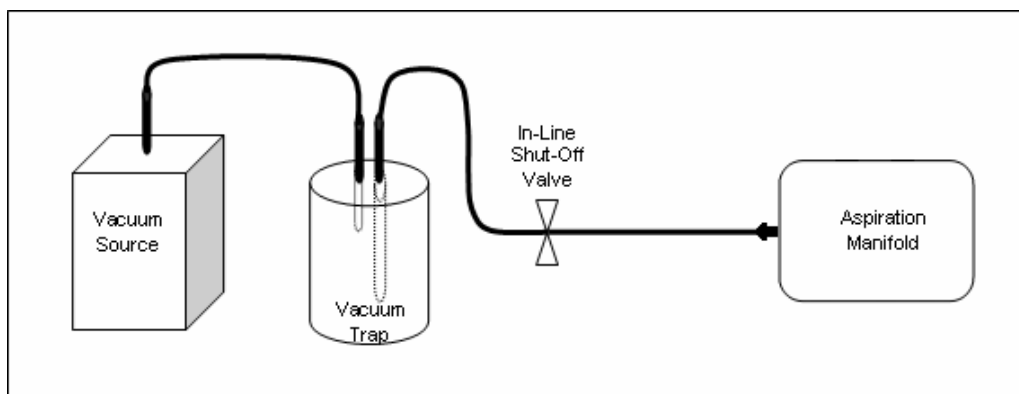

Figure 8: Vacuum System Connection
- a. Syringe method: Attach the Two-Way Check Valve (3) to the Luer Lock Fitting (4) on the top of the unit using the female adapter. Then attach a Luer Lock syringe and the Manifold Feed Tube (2) to the Two-Way Valve. If unable to read the volume markings on the syringe unscrew the syringe, rotate and screw the syringe back into the Two-Way Valve. Insert the other end of the Manifold Feed Tube (2) into the hole in the cap of the Source Bottle (1). If the Feed Tube does not fit loosely in the hole in the cap then it will need to be unscrewed slightly so a vacuum does not form in the Source Bottle.
- c. Bottle Top Dispenser (15): Assemble Dispenser according to manufacturer's instructions. The supplied Luer Nut Tube Fitting (16) is used to connect the Bottle Top Dispenser's dispensing tubing to the Manifold.
2. Place the Collection Bottle (7) beside the Manifold. Place the Bleed Tube (6) in the hole of the Collection Bottle's cap.
3. Attach one end of Vacuum Tubing (12) to the Quick Connect Fitting (10) on the back of the Manifold and other end to a shut-off valve connected to a vacuum source (see Figure 8 below). Make sure Quick Connect Fitting is disconnected before bleeding air from the system, once disconnected the fitting is closed.